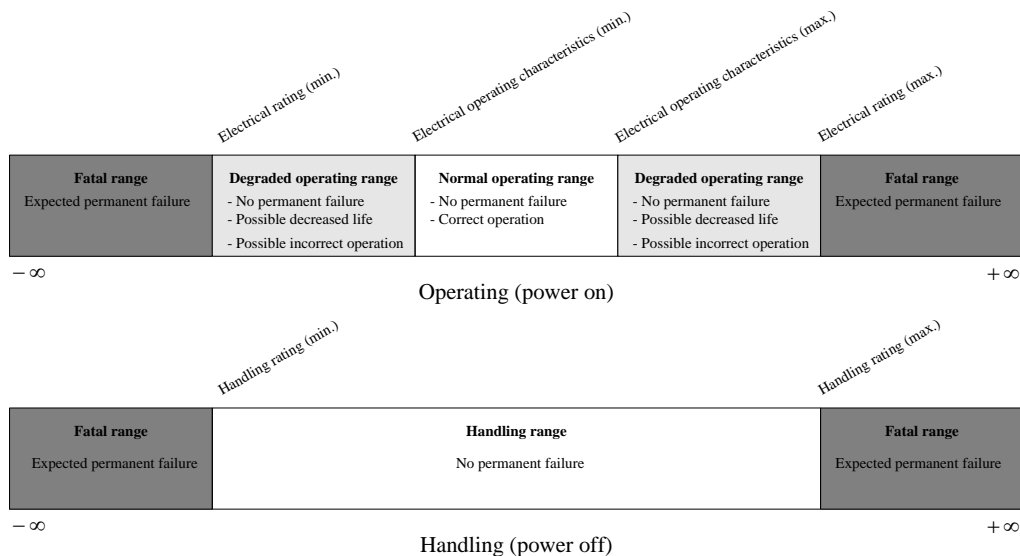

Figure 6. Relationship between Ratings and Operating Characteristics
- To assure chip reliable operation, please reserve enough margin for chip electrical design. The figure 6 shows the relationship between electrical ratings and electrical operating characteristics for correct chip operation.